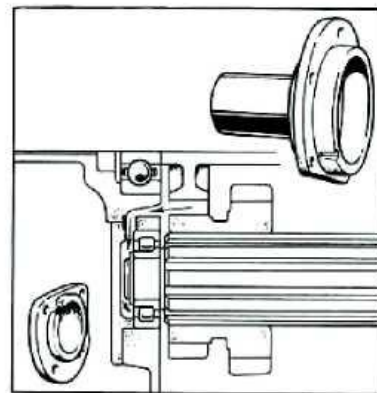

Fig. G.18 — Gearbox Modification.
1. Fit retainers 20141 and 20142, modified as shown in Fig. G.18, mark the oilways and drill a 3/16" diameter hole through the housing to connect these ways, being careful not to run-off and cause damage to the retainer sealing face.